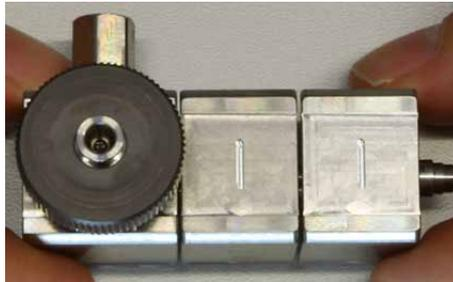

Fig. 58: Stack of displacement chambers (notches pointing upward), valve cartridges, and purge unit
11. Form a stack out of the purge unit, displacement chambers and valve cartridges (→ Fig. 58). The bores for the pistons and piston guide bushings should be on the same side as the pump outlet.